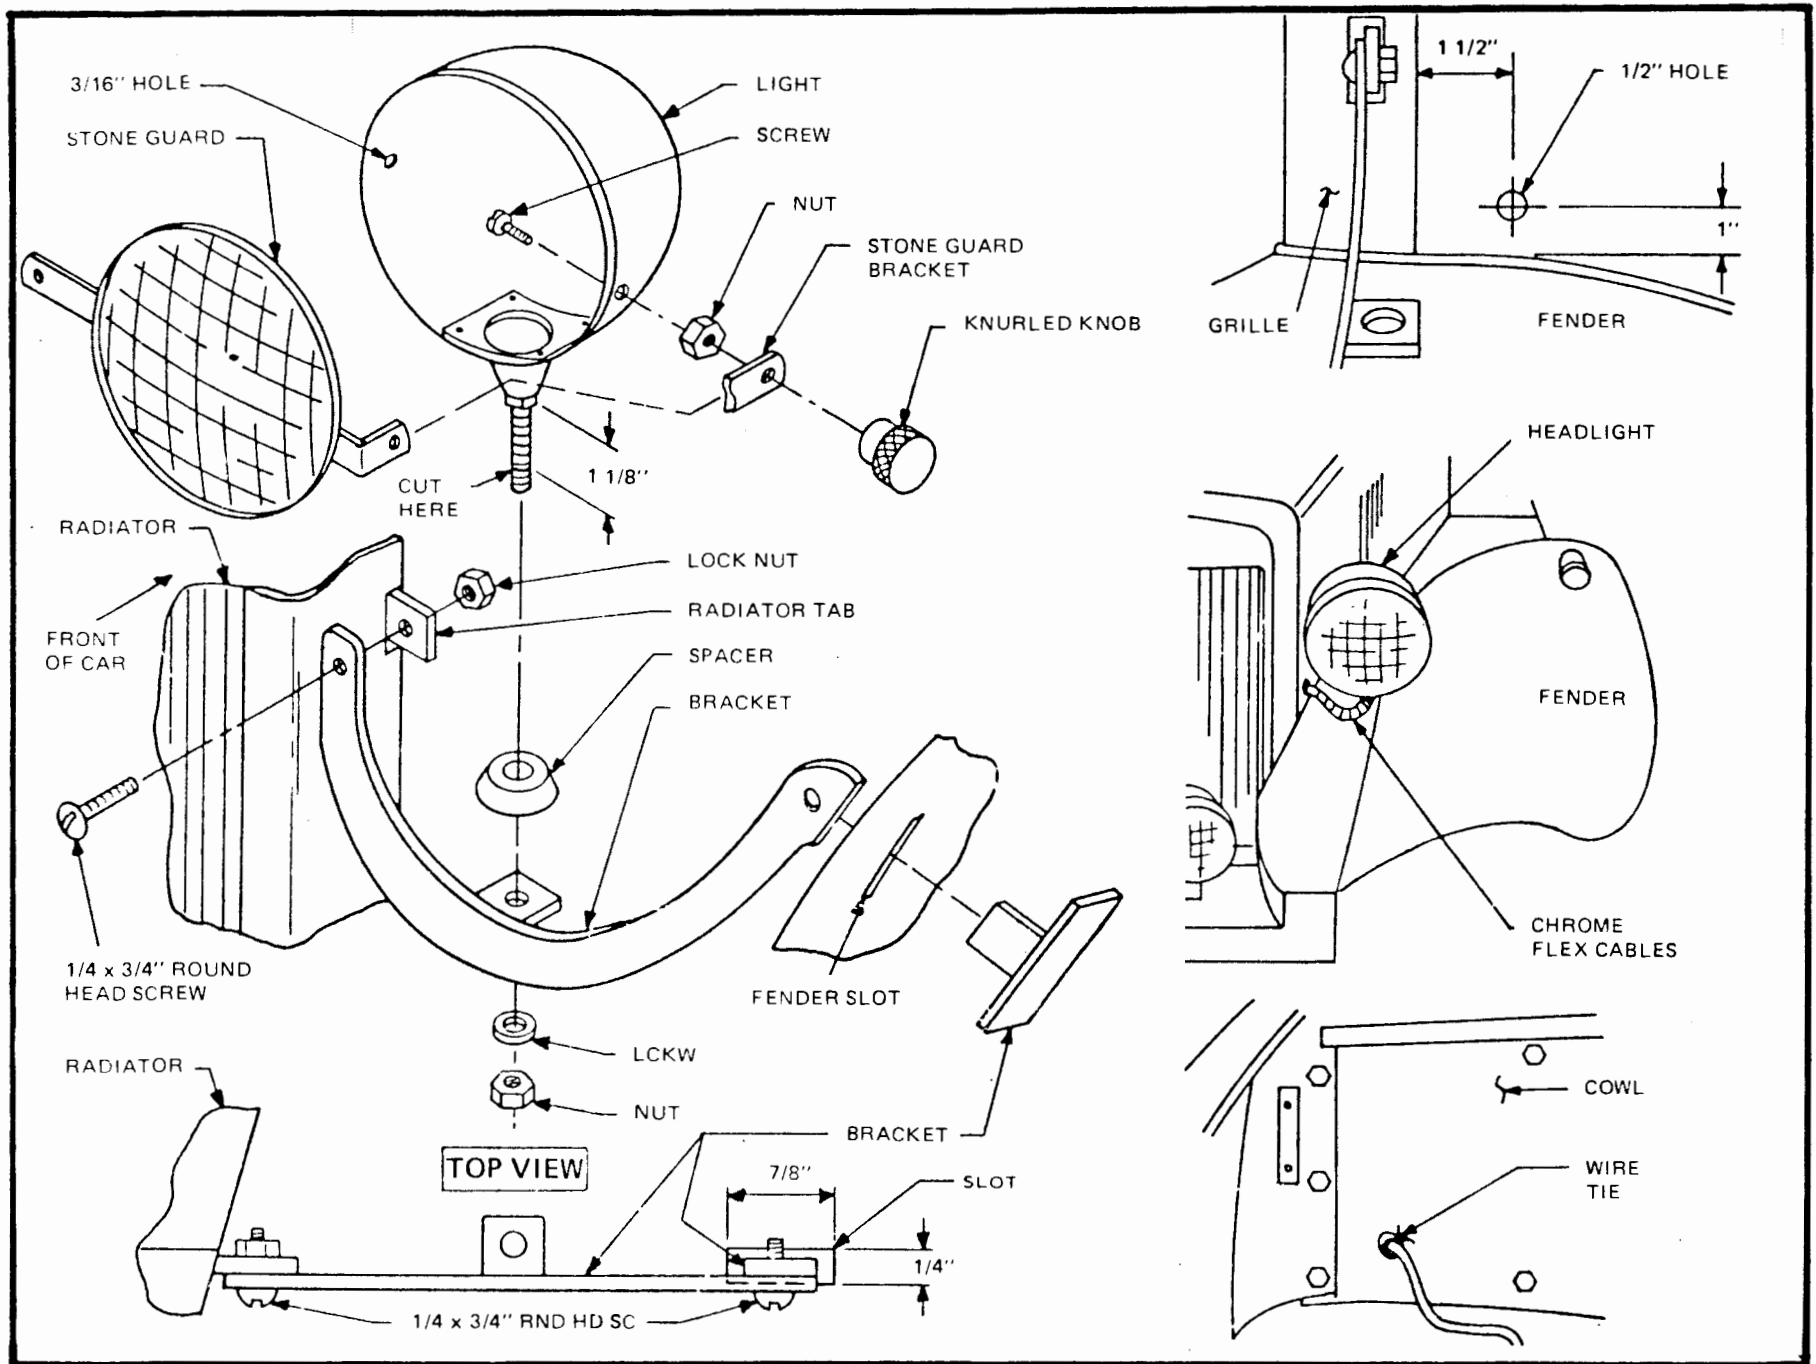

Figure 61
- Refer to Figure 61 and exploded view for general construction. Position the main headlight brackets against the radiator shell and bolt to the brackets previously installed in the shell. (Head light mounting tab must face rearward.) Bolt with 1/4 x 3/4" round head machine screws with locknuts. Hand tighten. At this time make sure the fenders sit at the same height. Adjust them by propping with a length of 2 x 4. Mark the location where the bracket contacts the fender. Cut a slot 7/8 x 1/4" so the slot is adjacent to the rear surface of the bracket. Insert the small fender mounted headlight support from beneath the fender, and bolt to bracket, using 1/4 x 3/4" round head machine screw with lock nut. Tighten all bolts. From underneath the fenders, lay fiberglass matting over the bracket and saturate with resin.